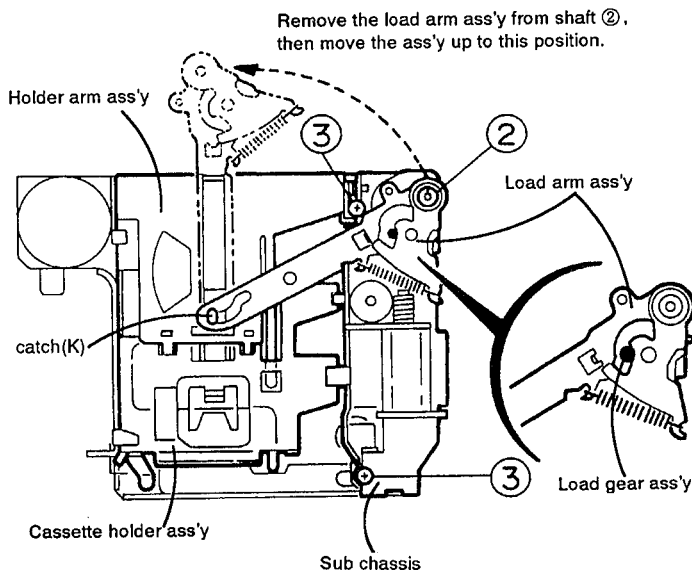

Fig. 4-7
■ Load arm ass'y (See Figs. 4-7 and 4-6)
- 1) Remove the C washer ② securing the load arm ass'y.
- 3) Turn the load arm ass'y in the rear direction, then disengage the load arm from the catch (K).
- 5) Remove two screws ③ securing the sub chassis.